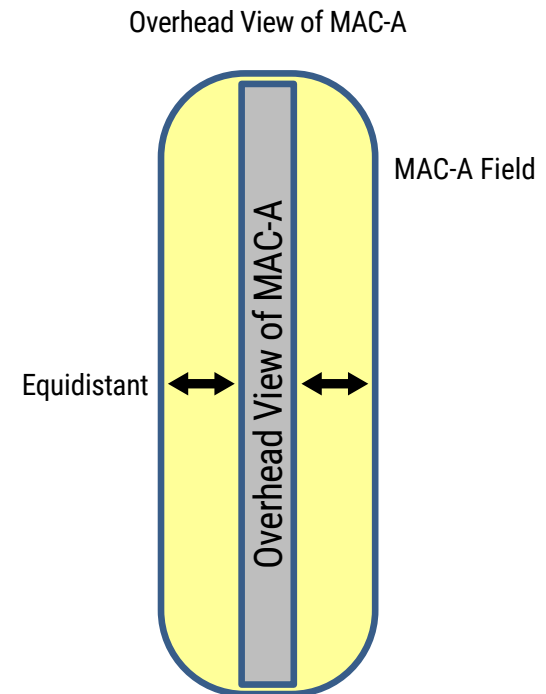

Fig. 6
- The field on either side of the MAC-A is equidistant. For example, it cannot be 12 feet on one side and 20 feet on the other (Refer to the Overhead View below) (**Fig. 6**). **The MAC-A must run down the center of the area to be controlled (in a straight line).**